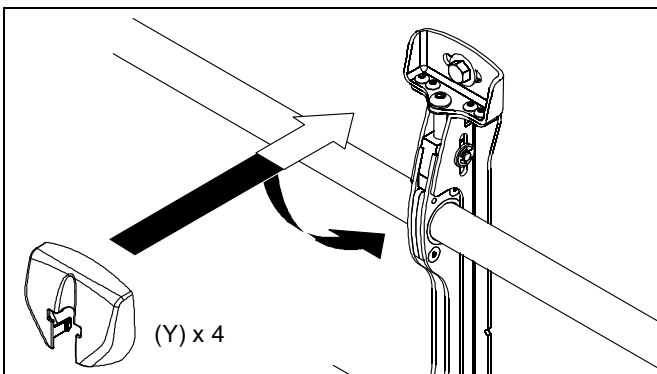

Figure 6
1. Attach wall bracket caps (Y) to top and bottom of both wall brackets. (See Figure 6)